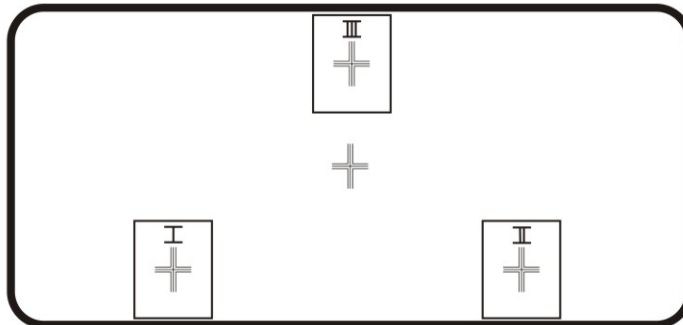

Figure 2-7 Boresight Pattern
1. Display the Boresight Test Pattern by pressing the **Test** key on the remote keypad, then use the **Left** arrow key to cycle to Boresight, see **Figure 2-7**.